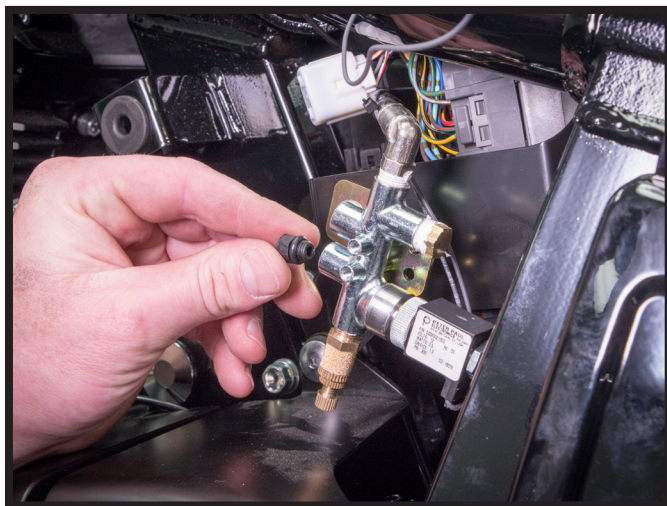

FIGURE 33
15. SCREW THE SUPPLIED PLUG AND O-RING INTO THE MANIFOLD. THEN SNUG IT TIGHT. (FIGURES 33, 34)